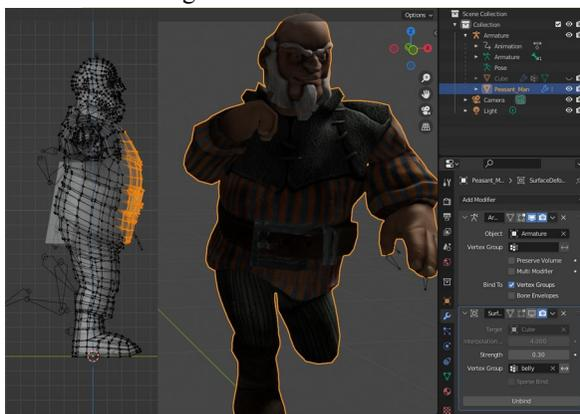

Figure 11-5 Selecting the Vertex Group for Belly Movement
- When the soft body is behaving reasonably, it doesn't need to be perfect, you should set up another modifier to transfer some of that movement onto the peasant man object. Select the character skin then enter Edit mode and, in orthographic mode with X-Ray enabled, select all the vertices in the belly area, as in Figure 11-5. Create a new vertex group called belly, but before you assign the vertices soften the edge of the selection by reducing the Weight to **0.25**, click Assign then reduce the size of the selection by pressing **Select ▶ Select More or Less ▶ Less**, or use the shortcut **CTRL-MINUS**, then change the Weight to **1.0** and assign the vertices.
8. To make the vertices move with the gyrations of the soft body you need to switch back to Object mode and add a Surface Deform modifier. Set the soft body, still named Cube, as the Target and, in the Vertex Group field select **belly**. Change the Strength to **0.3** then click **Bind**. In the outliner hide the soft body object in the viewport and the render. The right hand image in Figure 11-5 shows the two views superimposed; with and without the modifier.